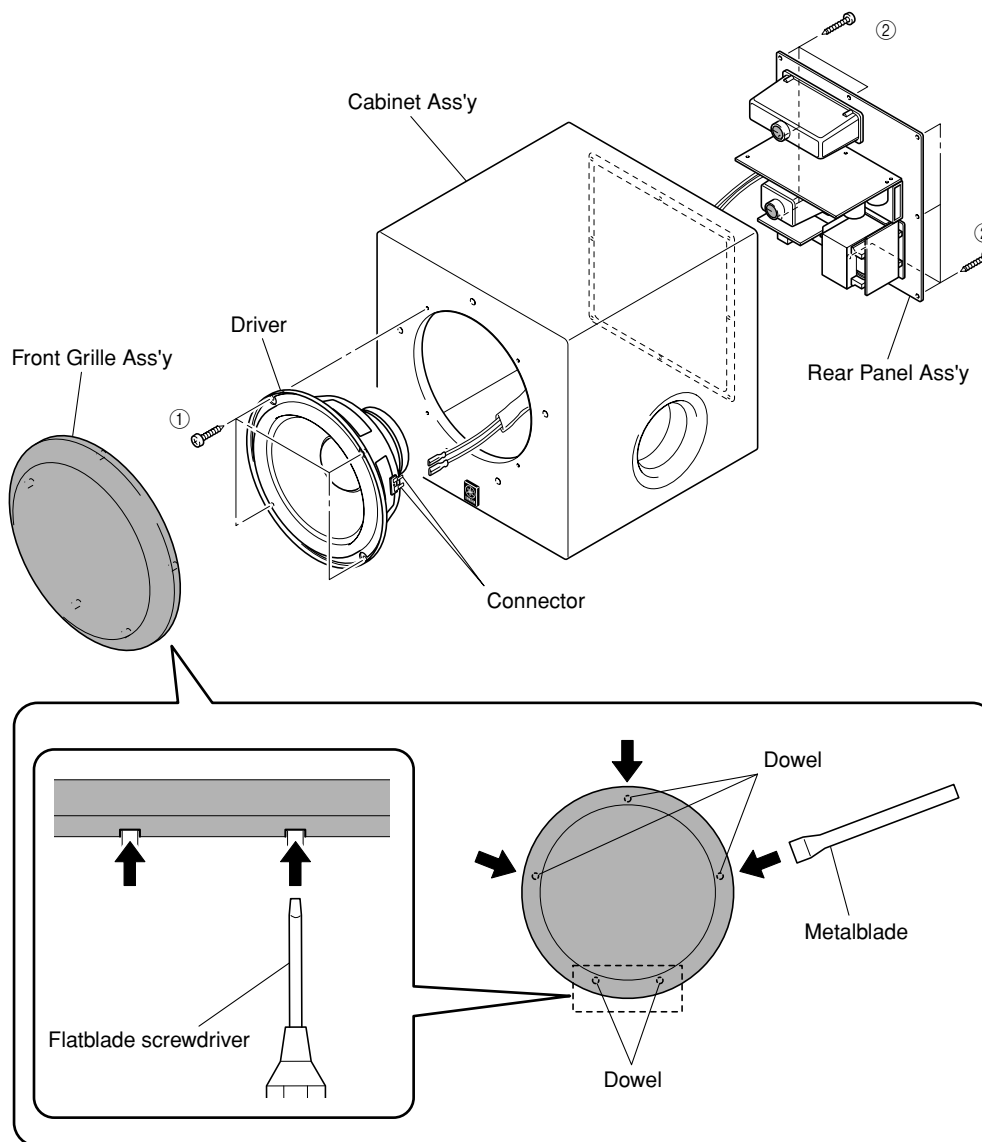

Fig. 1
- a. Using the flatblade screwdriver inserted in the gap between the Front Grille Ass'y and the Cabinet Ass'y (bottom side first), push up the Front Grille Ass'y. (Fig.1)
- b. Remove the Front Grille Ass'y by lifting a metalblade up. (Fig.1)
- a. Remove 4 screws (①) and remove the Driver. (Fig.1)
- b. Disconnect the connector connected to the terminal of the Driver. (Fig. 1)
- a. Remove 8 screws (②) and remove the Rear Panel Ass'y. (Fig.1)
- * Screws (②) are identified with arrow marks (◀).